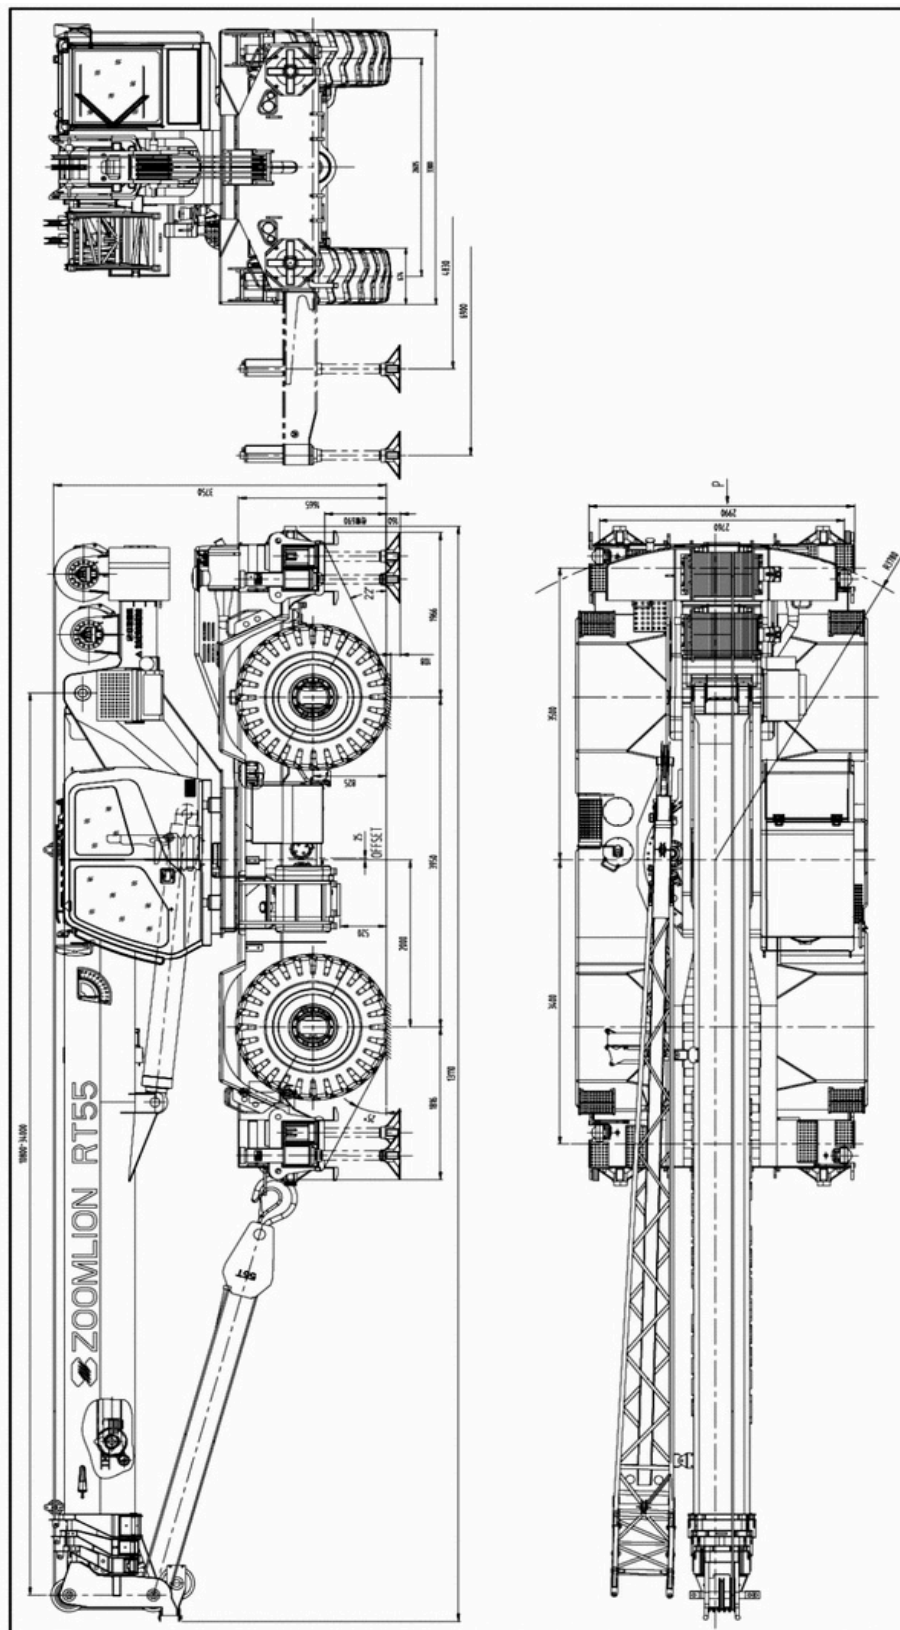

Figure 09 – 1 Overall View – RT55 Rough Terrain Crane
- (1) Four steering modes: 2-wheel steer (front wheel), 2-wheel steer (rear wheel), 4-wheel steer and Crab steer
- (2)Max. rated lift capacity: 60.6 tn at 9.8 ft. (55 t at 3 m) radius
- (3)Max. lift height: 114 ft. (34.8 m)
- (4)Max. travel speed: 24.23 mph (39 km/h)
- (5)Overall dimensions: 43 ft. x 10.8 ft. x 12.3 (13110 × 3300 × 3750 mm) (Refer to Figure 09 – 1)
- (6)Deadweight: 44.4 tn (40.26 t)
- (7)Ability to pick-and-carry loads
- (8)Rough terrain travel performance.